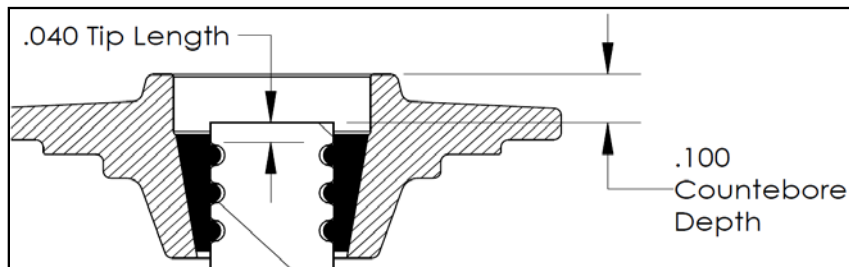

Figure 1) Installation assembly after valve tip modifications.
**Note 1: MODIFICATION NECESSARY.** KPMI recommends roughly 0.100" of shim counterbore depth in the retainer. This distance is measured prior to the installation of the rocker shim, from the tip of the valve to the top surface of the retainer. To achieve this measurement, **the valve is intended to be "tipped" / shortened by 0.035"** (See Figure 1, page 2) Note: removing .035" should leave roughly .040" of tip length above the last groove on an OEM style groove. KPMI doesn't recommend less than .040" of tip length.
1. Stem Protrusion is measured from the tip of the valve stem to the cylinder head. See Figure 1.
2. Outer spring installed height is measured where the outer spring contacts the Retainer and Basewasher when assembled (See Figure 1).
3. Inner spring installed height is measured where the inner spring contacts the Retainer and Basewasher when assembled (See Figure 1).
4. Retainer-to-Guide clearance is the distance between the Valve Guide (w/o the seal) and the bottom of the Retainer, with the Valve in the closed position (See Figure 1 and Notes 3 & 4).
5. Retainer-to-Seal clearance is the distance between the Valve Stem Seal and the bottom of the Retainer, with the Valve in the closed position (See Figure 1 and Notes 3 & 4).